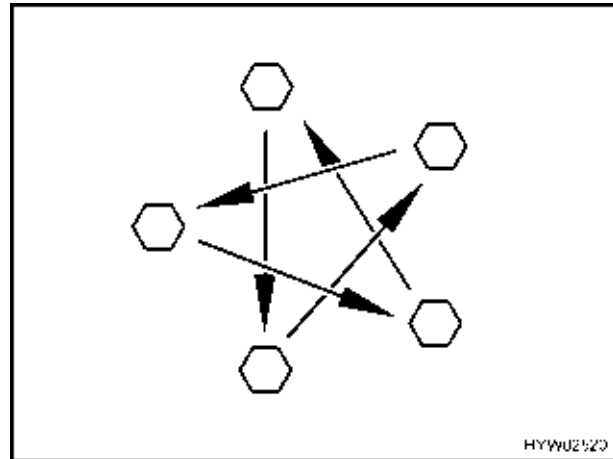

Fig. 175 Tighten the wheel nuts or wheel bolts cross-wise
- Check regularly that the wheel nuts or wheel bolts are firmly seated. Re-tighten the wheel nuts or wheel bolts of a changed wheel cross-wise after 50 km (30 miles) (Fig. 175). For tightening torque see section Tightening Torque.
- ▶ Tighten the wheel nuts or wheel bolts cross-wise (Fig. 175). For tightening torque see section Tightening Torque.